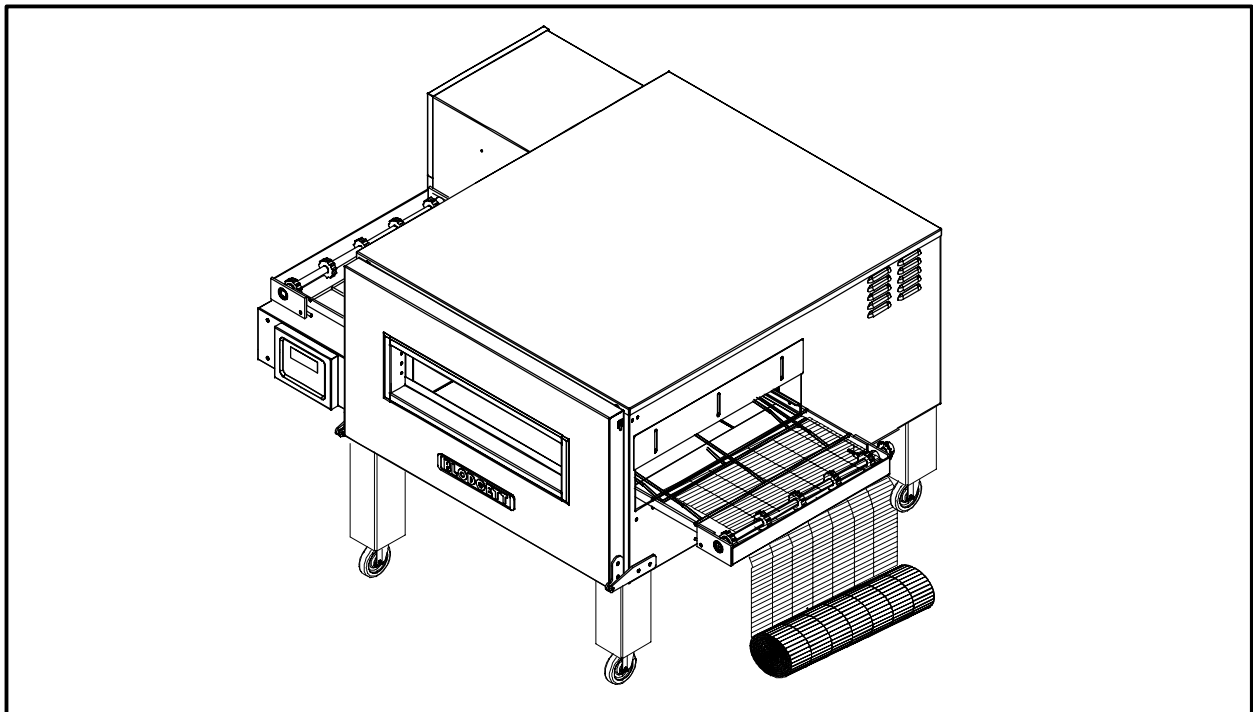

Figure 9
1. Thread the conveyor belt from the right side of the oven. The conveyor belt has loops on both ends. The loops must travel backwards on the conveyor rack to prevent belt damage. See Figure 9 for proper belt orientation. Push the belt through the conveyor rack threading in between the top and bottom guide rods. Stop when there is approximately 31 cm (12") of belt hanging out on the left side.